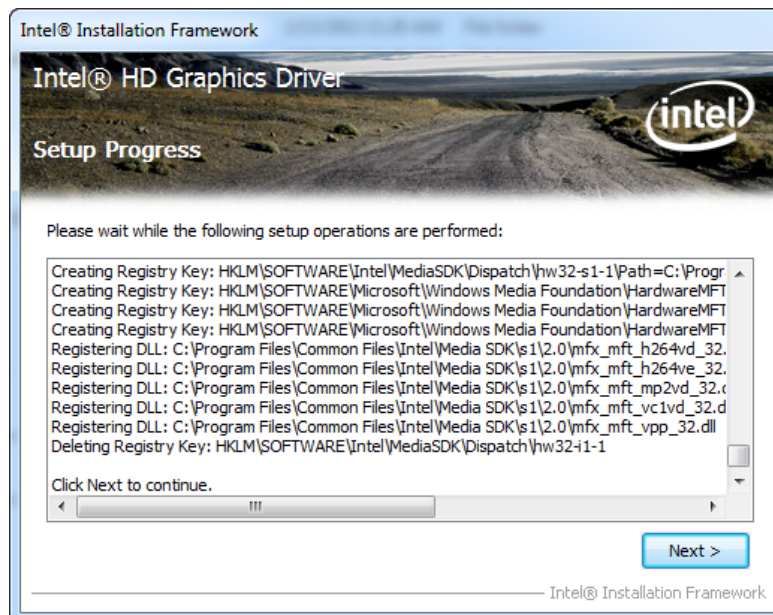

Figure 5-13: Graphics Driver Setup Operations
Step 14: Setup Operations are performed as shown in Figure 5-13.